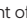

Fig. 246 Centre console, lower part: electronic parking brake button.
- Pull and hold the  **Fig. 246** button.
- The parking brake is activated when the control light of the **Fig. 246** button (arrow) and the red  control light of the display in the dash panel are on.
- Press the button  **Fig. 246**. At the same time step hard on the brake pedal or, if the engine is running, press the accelerator pedal slightly.
- The control light of the **Fig. 246** button (arrow) and the red  control light of the display in the dash panel go out.
The parking brake can be prevented from being automatically released by continuously pulling up the  **Fig. 246** switch when starting off.
- Pull and hold the  **Fig. 246** button in this position to **forcefully** stop the vehicle. At the same time, an acoustic warning can be heard.